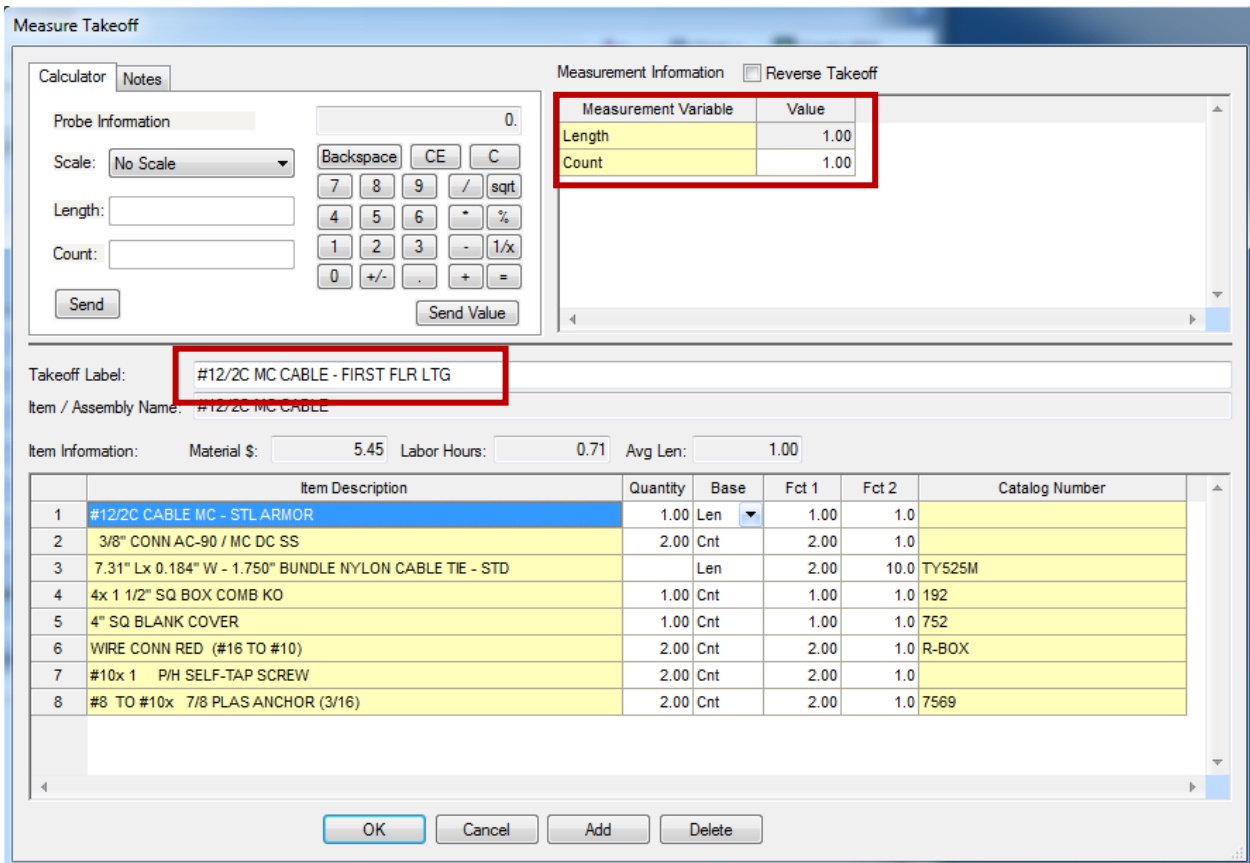

Figure 5
16. In the Measure Takeoff window edit the Length, Count, and Takeoff Label. See Figure 5.